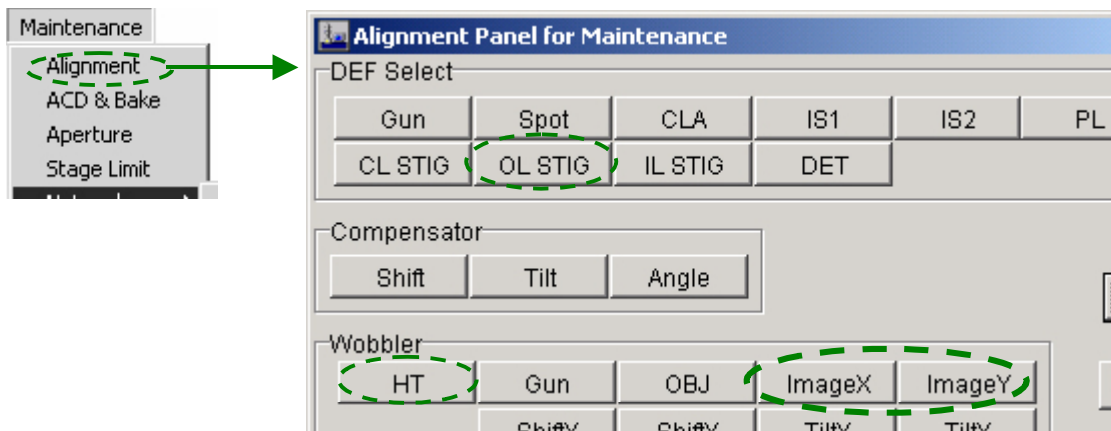

Fig. 5.31 Alignment Panel for Maintenance window (Focusing the image using the circled buttons)
- ◆ Select **Maintenance** from the **TEM Controller** menu bar and click on **Alignment** to open the **Alignment Panel for Maintenance** window (👉 Fig.5.31).